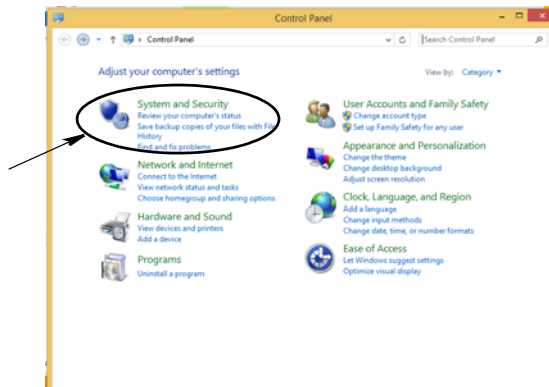

FIG. 224
2. Click on the System and Security link (FIG. 224).